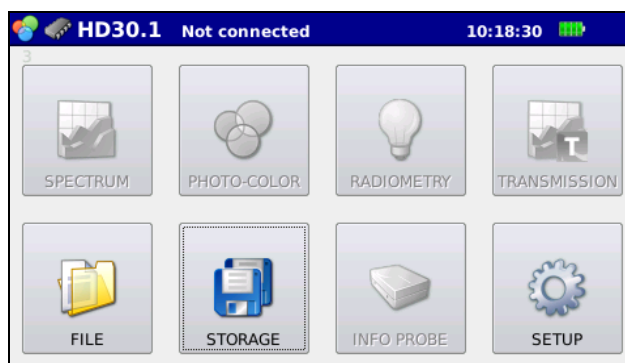

Figure 3.1: Start-up screen with no probe connected.
1. When switching the instrument on, a yellow led (steady at first and then blinking) shows that the instrument is starting. After 20 seconds, the instrument is operating and the start-up screen appears if no probe is connected (fig 3.1)
Press  to return to the main menu Fig.3.1.